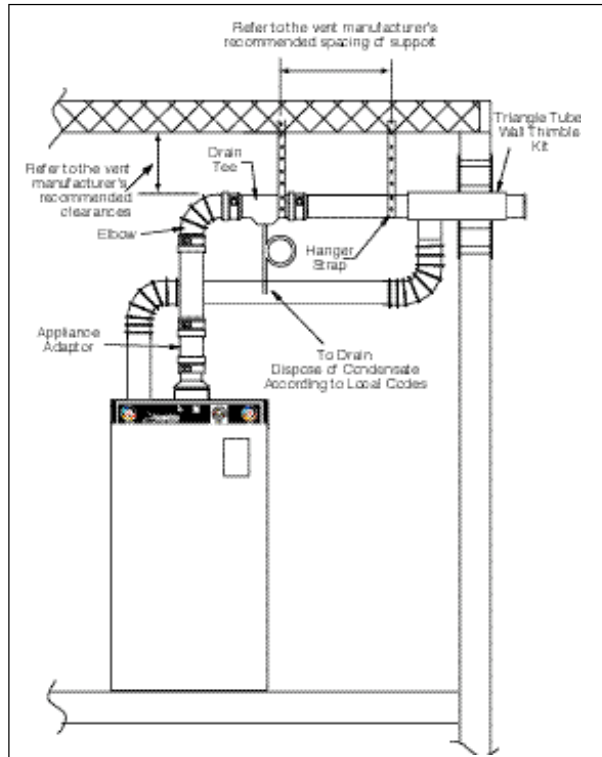

Fig. 22: Horizontal - Direct Vent Combination
- a. The vent system should contain a condensate trap located near the unit as shown in Figs. 22, 22A & 22B, page 34.
Combination: The vent and combustion air terminate at a single concentric point using the Horizontal Concentric, Horizontal Single Wall Vent or Horizontal Wall Thimble Kit. See Figs. 22, 22A & 22B page 34.